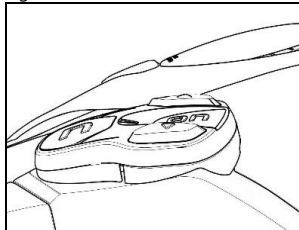

Fig. 22
- The proper positioning of the keypad is illustrated in Fig. 22,23.